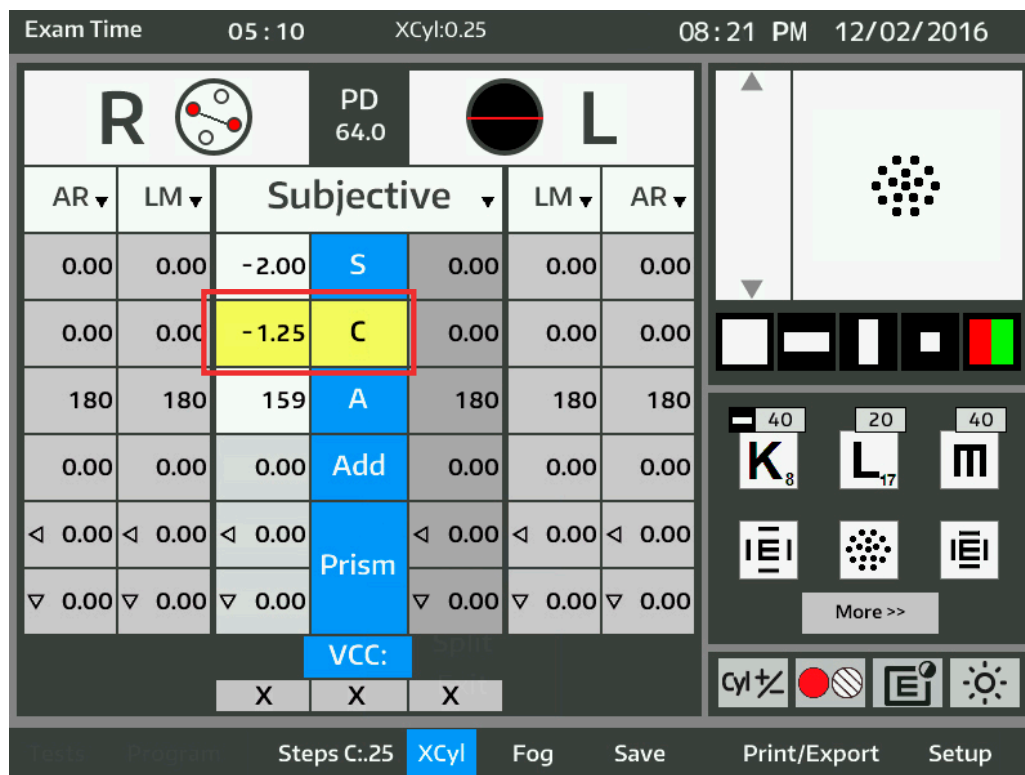

Figure IU-15 Cross-Cylinder Screen
1. Confirm the XCyl is enabled and the C box is highlighted in yellow. Refer to Figure IU-15.